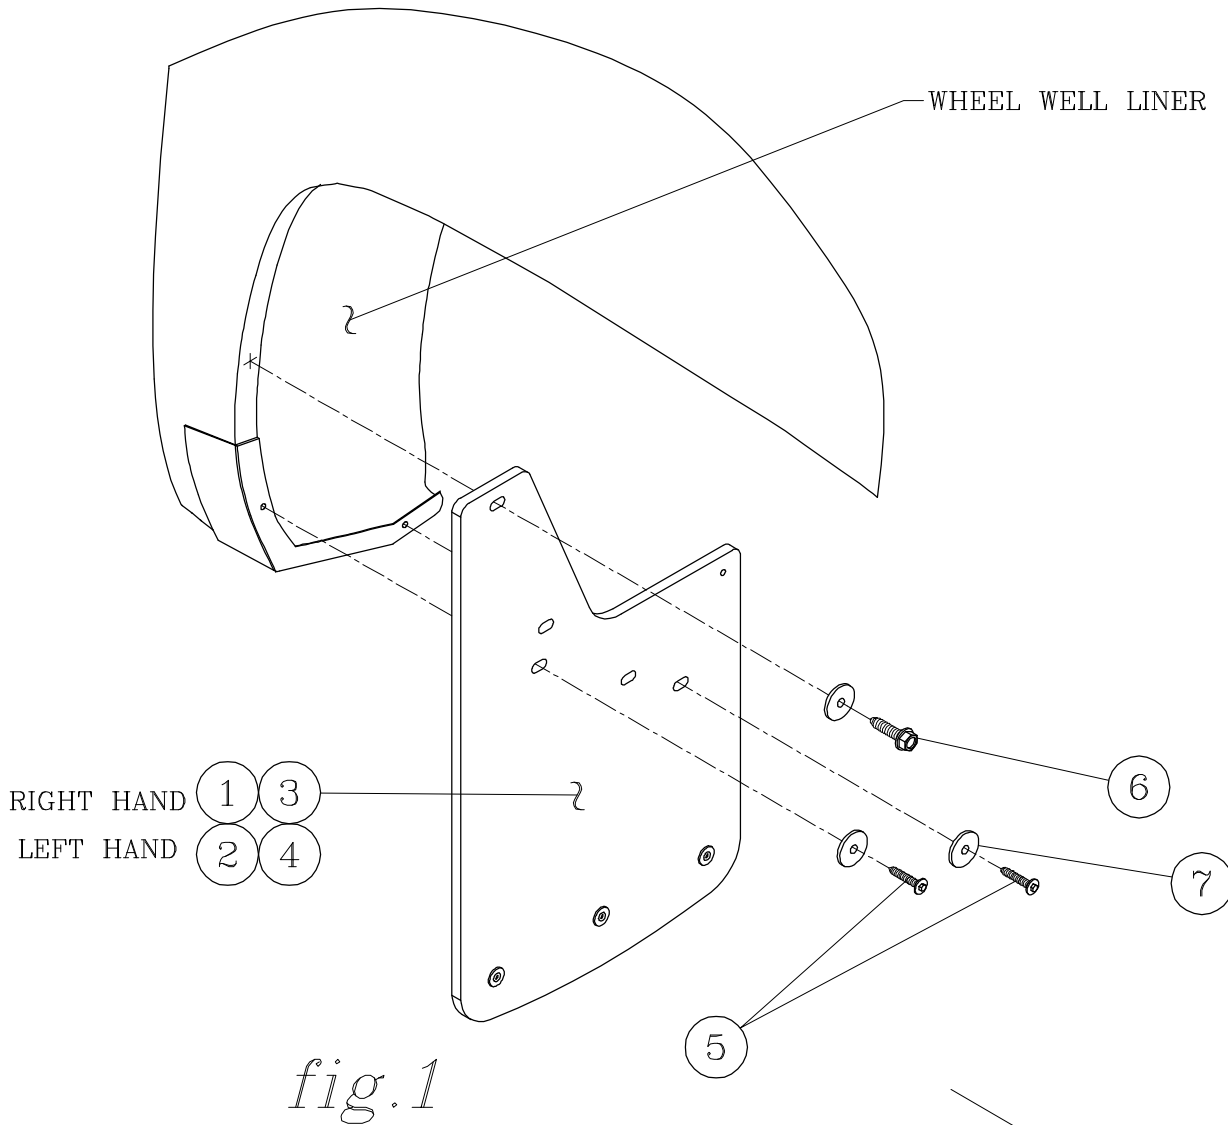

fig.1
- 2.2 POSITION THE SPLASH GUARD AGAINST THE WHEEL WELL FLANGE AND INSTALL TWO HEX HEAD SEMS SCREWS WITH FENDER WASHERS (ITEMS #5,7) THRU THE TWO LOWER HOLES AS SHOWN IN FIG. 1. AND TIGHTEN DOWN.